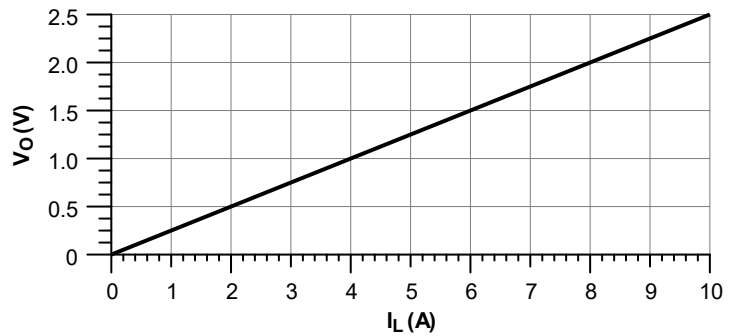

Figure 7. Circuit Parameters and Transfer Characteristic of the Circuits in Figure 6
**Note:** With the circuit parameters listed in Figure 7, the circuit gain is  $V_O/I_L = 250\text{mV/A}$ .